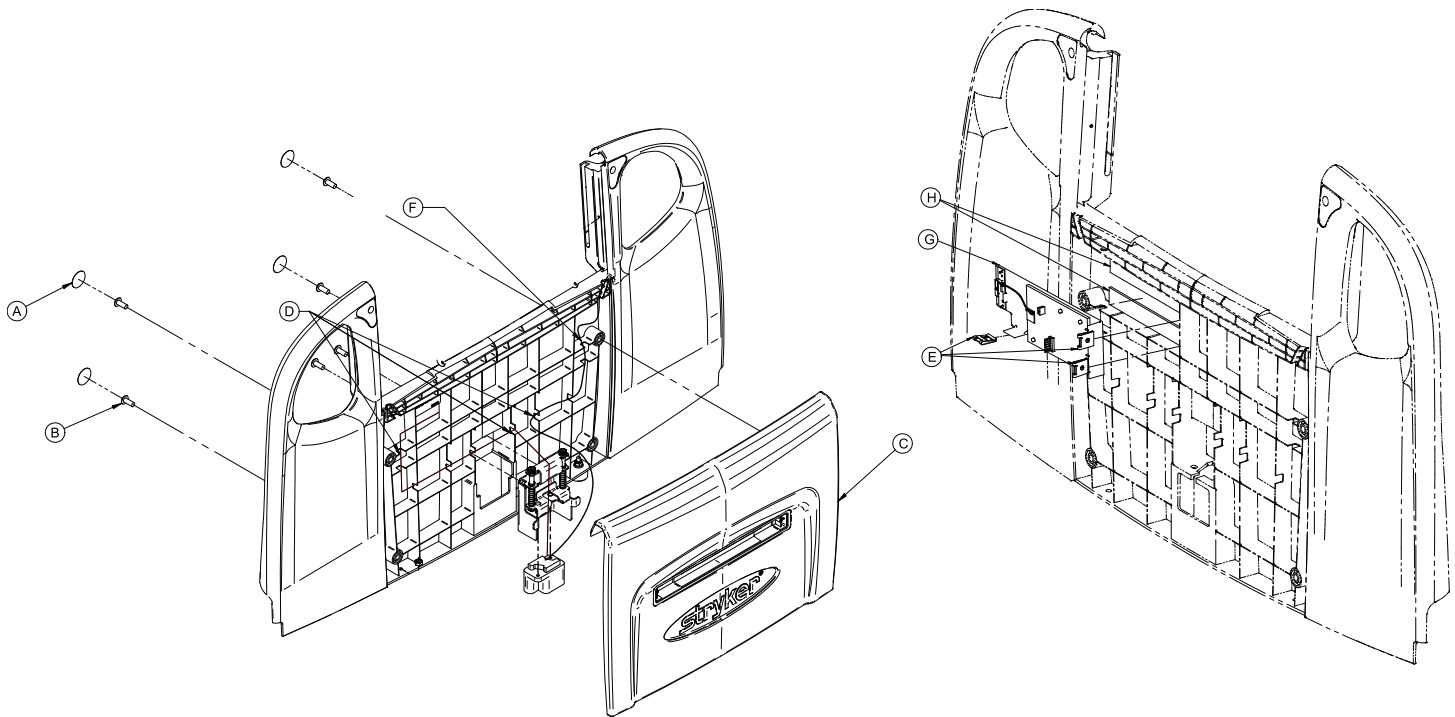

Figure 78 – Wi-Fi board
3. Using a small pick, remove the four screw covers (A) from the back of the footboard (Figure 78). Save the screw covers.